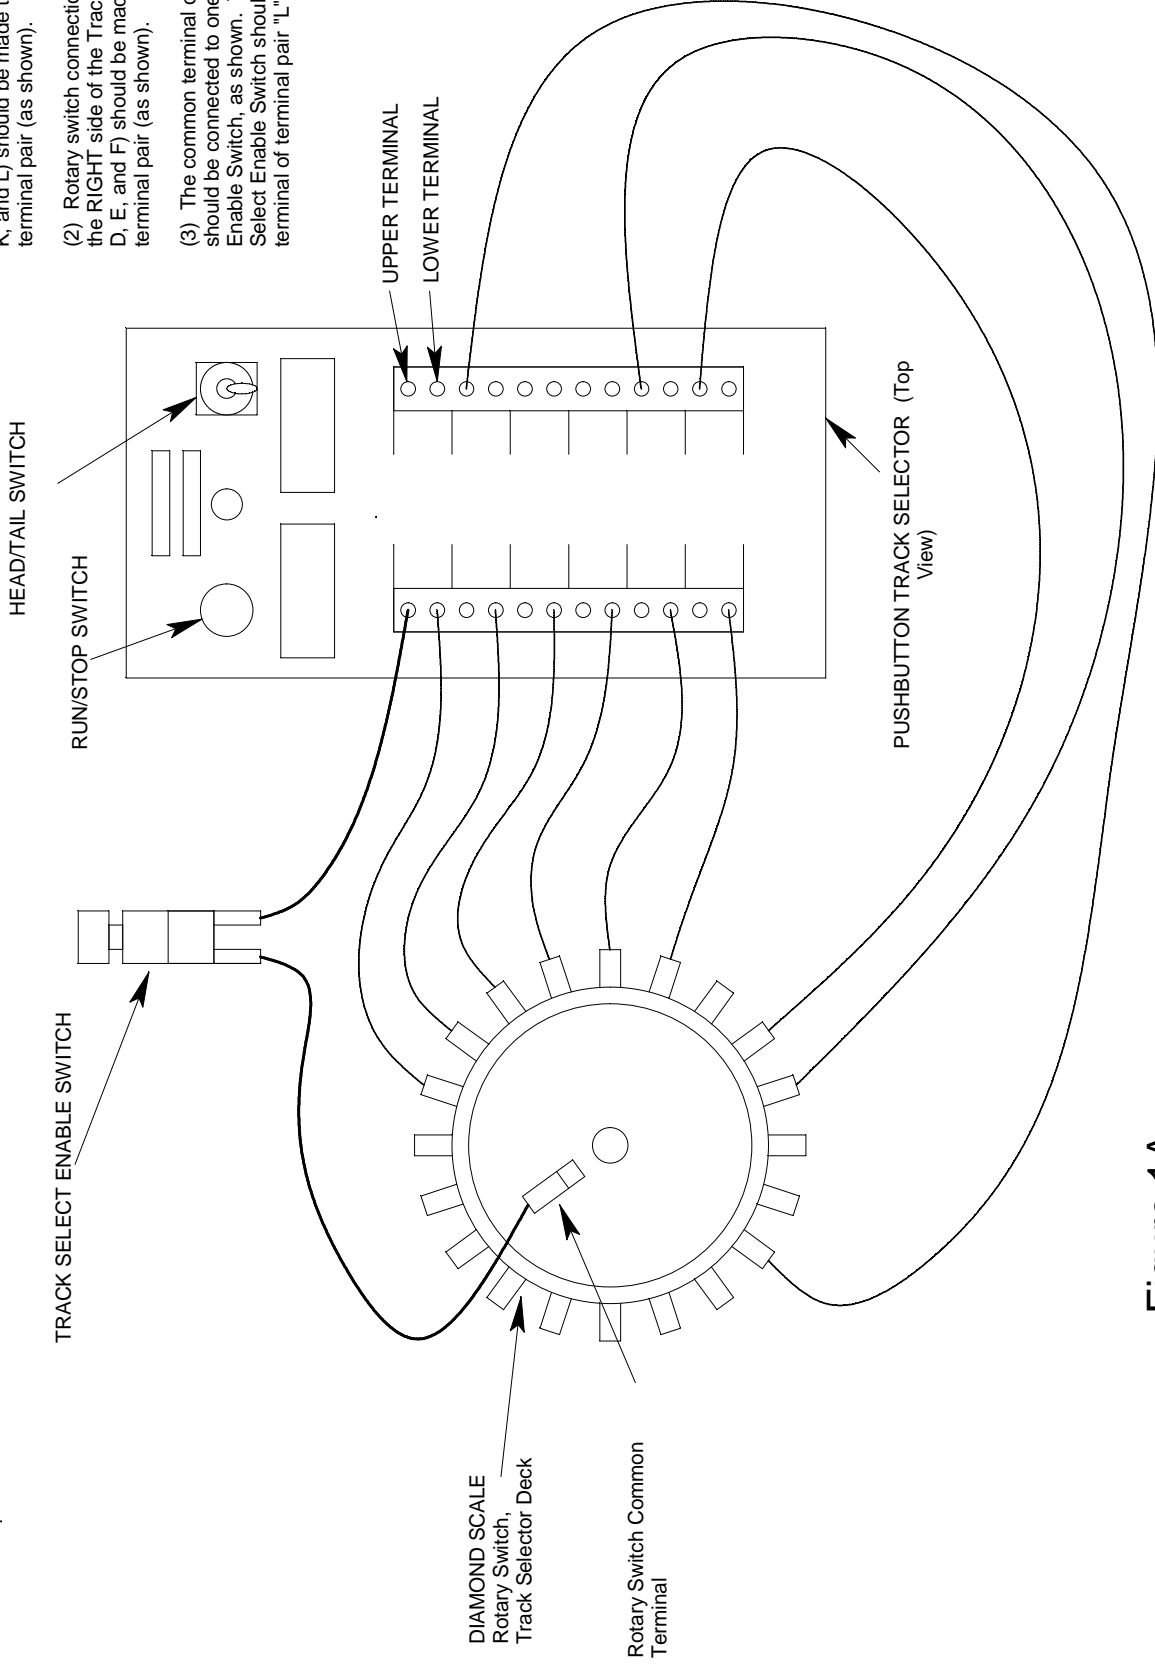
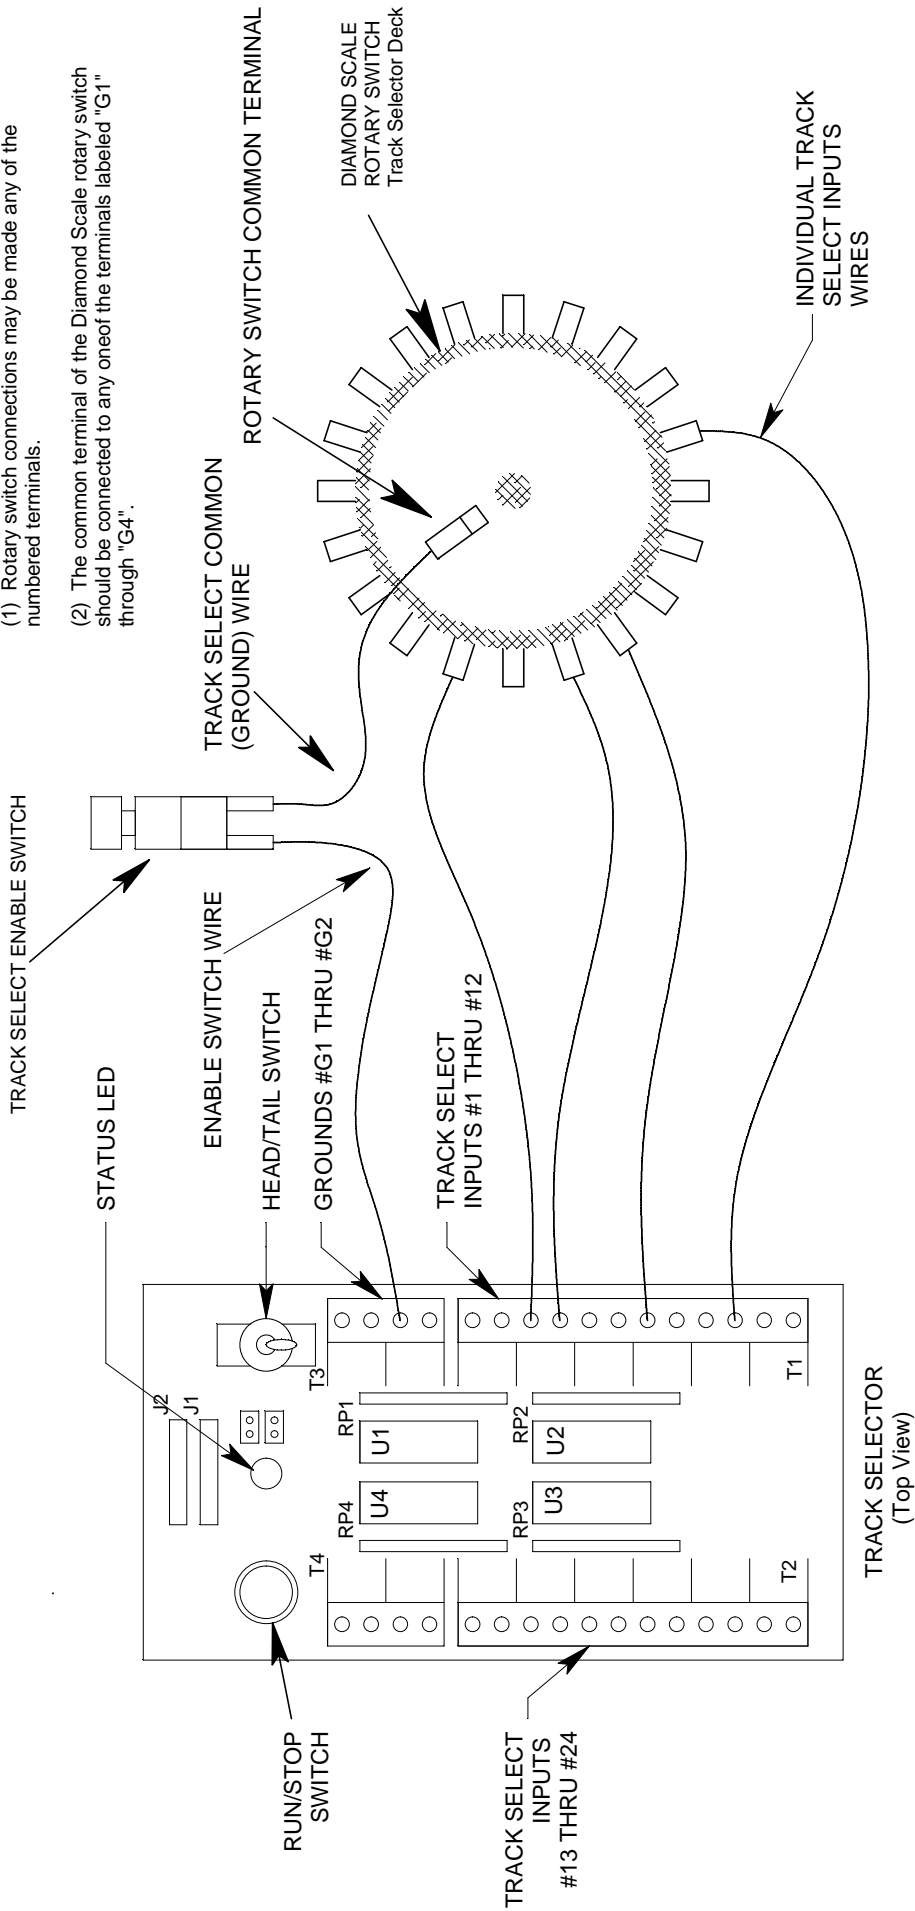

Figure 1A
Figure 1B
♦**Important:** There are two styles of the *Pushbutton Track Selector Module* available, which are basically the original and updated versions of the same thing. The original version is identified with the part number “ASSY 07-220” on it; the newer version has part number “ASSY 07-295” on it. If you have the original version, refer to Figure 1A, “Wiring Diagram: Rotary Switch Connections to Pushbutton Track Selector”. If you have the newer version, or are using the *Chubb/Universal Track Selector*, refer to Figure 1B, “Wiring Diagram: Rotary Switch Connections to Chubb/Universal Track Selector”.
Normally if using the PTS, each switch has a pair of wires connected to one of the terminal block terminal pairs “A” through “L”. Refer to your *Pushbutton User's Manual* for complete details and normal wiring, and compare to wiring as shown in Figure 1A.
Normally if using the CTS, each switch has one wire connected in common with the other switches, with each of the other switch wires connected to one of the track selector terminals numbered “1” through “12” (or “1” through “24”, if your selector is so equipped). The common switch wire is connected to any one of the terminals labeled “G1” through “G4”. Refer to your *Chubb/Universal User’s Manual* for complete details and normal wiring, and compare to wiring as shown in Figure 1B.
In referring to Figures 1A and 1B, you will note that for the rotary switch conversion, only one pushbutton is used. This individual pushbutton switch is the *Track Select Enable Switch*.
- (A) If using a PTS, connect the wire to the UPPER terminal of Terminal Pair "L" on the *Track Selector Module* (refer to Figure 1A).
- (B) If using a CTS, connect the wire to any one of the terminals labeled “G1” through “G4”.
- (A) If using a PTS, connect the first rotary switch wire it to the LOWER terminal of Terminal Pair "L". Continue with the next convenient rotary switch terminal wire, connecting it to the LOWER terminal of Terminal Pair "K". Continue with the rest of the wires, using the remainder of the left side terminal blocks, "J" through "G". When completed with the left hand terminal block pairs, begin using the right hand terminal block pairs "F" through "A". Note: When wiring to the right hand terminal block pairs, use the UPPER terminal of the terminal block pair. Refer to Figure 1A. *Note:* If using a *Pushbutton Track Selector Expansion Module*, continue wiring its terminal blocks while observing the same left hand/right hand, lower/upper terminal block pair wiring convention.
- (B) If using a CTS, connect the rotary switch wire to any terminal numbered “1” through “12” (or “1” through “24”, if your selector is so equipped). Continue with the next convenient rotary switch terminal wire, connecting it to any of the remaining numbered terminals. Refer to Figure 1B.
◆**IMPORTANT!** If using a PTS, be sure the rotary switch to track selector connections are completed as shown in Figure 1A, using the *upper* and *lower* terminals of the terminal block pairs as shown. If the connections are not made properly, a short circuit will occur and the controller will flash a "R-R-Y-Y-Y-" pattern during Power-On Self Test. See *Pushbutton Track Selector Installation and User's Manual* for additional information on power-on self test checks. While the track selector will not be damaged by the short circuit condition, it is not recommended that the *Track Selector* be operated in such a state for periods longer than 5 minutes.